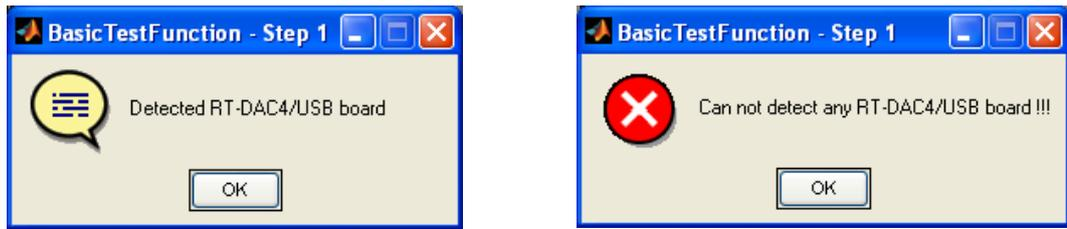

Fig. 2.3 Result of the step 1
- Double click the *Detect RTDAC/USB board* button. One of the messages shown in Fig. 2.3 opens. If the board has been correctly installed the left window is displayed.